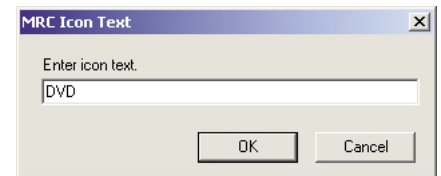

Figure 27: MRC Icon Text window
1. Double-click the desired source icon. The *MRC Icon Text* window will appear (see Figure 27).